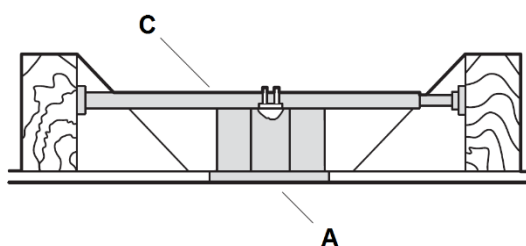

Fig. 4
To hang your fan where there is an existing fixture but no ceiling joist, you may need an installation hanger bar (C) as shown in **Fig.4**. Make sure the hanger bar you purchase has been designed for use with ceiling fans.